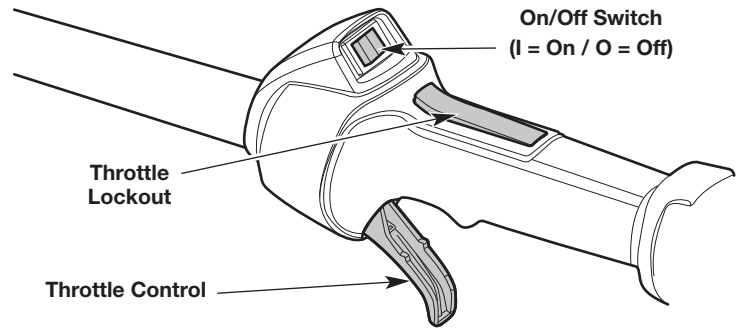

Fig. 5
NOTE: There is no need to turn the unit on. The On/Off switch is in the **On (I)** position at all times (Fig. 5).
NOTE: DO NOT squeeze the throttle control (Fig. 5) until step 6.
6. Press and hold the throttle lockout (Fig. 5). Squeeze the throttle control as needed for operation (Fig. 5).
2. Press and hold the On/Off switch in the **Off (O)** position until the engine comes to a complete stop (Fig. 5).